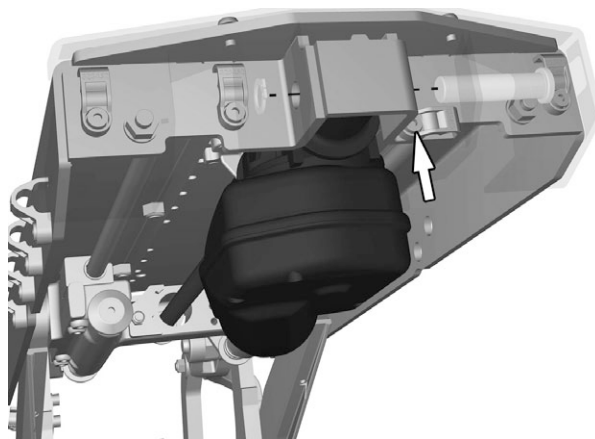

Figure 128. Assemble the actuators rear end using the axle and the circlip.
5. Connect the cable to the connector on the cable. Assemble the cable bracket using the screw. See fig. 128.
6. Assemble the actuators rear end using the axle and the circlip. See fig. 128.